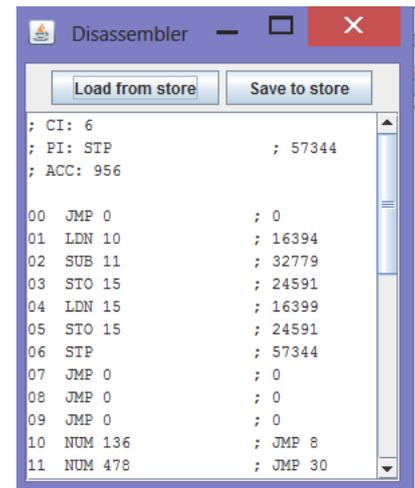

Fig. 9 - Example Program Lines in the Disassembler
3. Continue until all the program lines are typed in as shown to the left of the semicolons for each line (see Fig. 9). Any unused lines can be left as they were, and you can leave anything to the right of semicolons on the edited lines unchanged.